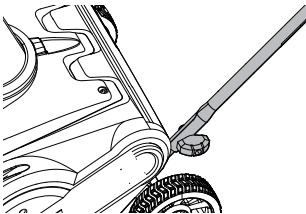
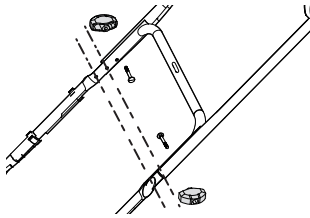

Fig.2
Fig.4
**IMPORTANT:** When attaching the lower handle to the snow thrower, make sure the chute crank bar mounting hole on the lower handlebar is facing upwards (side of bar where hole is indented). ( See Fig. 2-Fig.4)